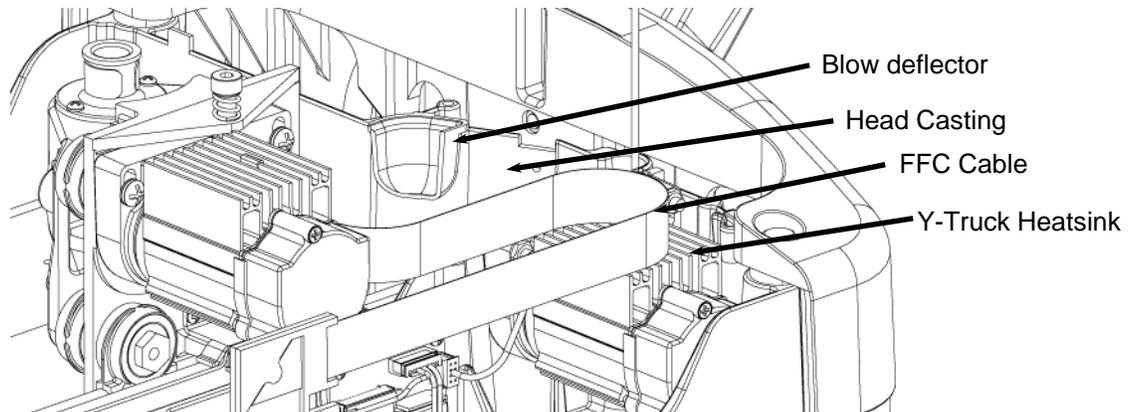

**FIGURE 7:** EXPLODED VIEW OF THE REMOVED COVER
7. **Lay the head cover to the side:** With the AC Interrupt Switch Cable still connected, carefully lay the cover onto the back outfeed tray (See Figure 7). Make sure to avoid pulling on the cable during the rest of the repair. You can also lay the cover over the side as shown in **Picture 1** of Appendix A.